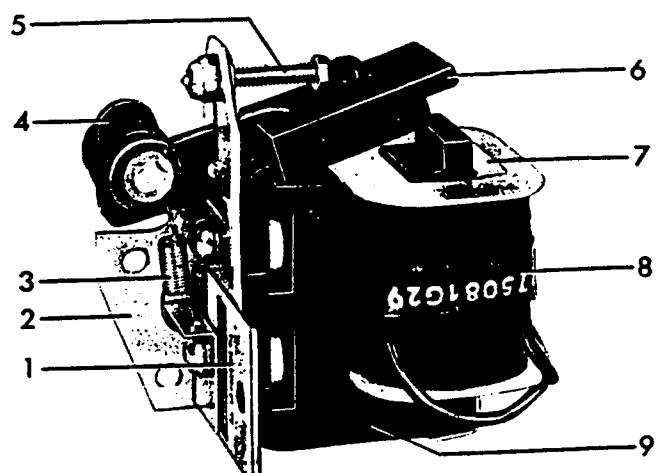

Figure 17. (8041863) Magnetic Trip Device
4. The Magnetic Trip Device which physically trips the breaker (Figure 17).
### MAGNETIC TRIP DEVICE (Figure 17).